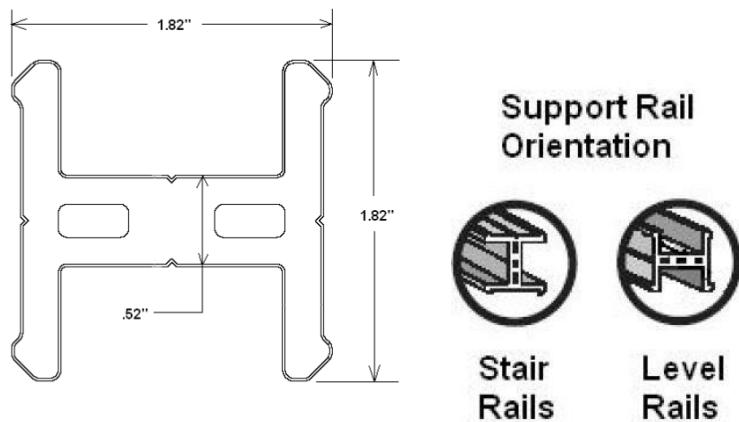

FIGURE 1 – SUPPORT RAIL
TimberTech® Classic Composite RadianceRail® Trademark Premier	Top rails are an assemblage of two components: A top rail profile (Figures 6, 7, or 8) with an inner support rail(Figure 1). Top rails and support rails are fastened together with four equally spaced #8 x 2" long coated screws that pass through pre-drilled holes in the baluster side support rail and threaded into the top rail. Bottom rails are an assemblage of two components; A universal rail profile (Figures 6, 7, or 8) with an innersupport rail (Figure 1).
TimberTech® Classic Composite Drink Rail Contemporary Rail	Top rails are an assemblage of three components; A deck board profile (1) , universal rail profile, and innersupport rail. See Figure 5 for rail profiles, and Figure 1 for support rail.  For level rails, the deck board profile (1) , universal rail and support rails are fastened together with one #8-18 (0.122 inch minor diameter) by 2 inch long pan-head, carbon steel screw, spaced every 15 inches.  For stair rails, the deck board profile (1) , universal rail and support rails are fastened together with one#8-18 (0.122 inch minor diameter) by 2-5/8 inch long pan-head, carbon steel screw, spaced every 15 inches.  An upper composite support rail is used for rail lengths up to 91 inches. An aluminum support rail is used for raillengths exceeding 114 inches.  Bottom rails are an assemblage of two components; A universal rail profile with a composite inner support rail. Theuniversal rail is slip fit over the inner support rail.